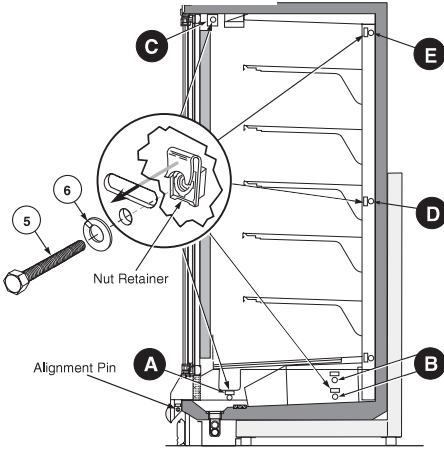

Figure 7A. Joining Sequence
**7** Loosely insert Cap Screw – 5 with Lock Washer – 6 into each nut retainer following the sequence shown in Figures 7A and 7B.